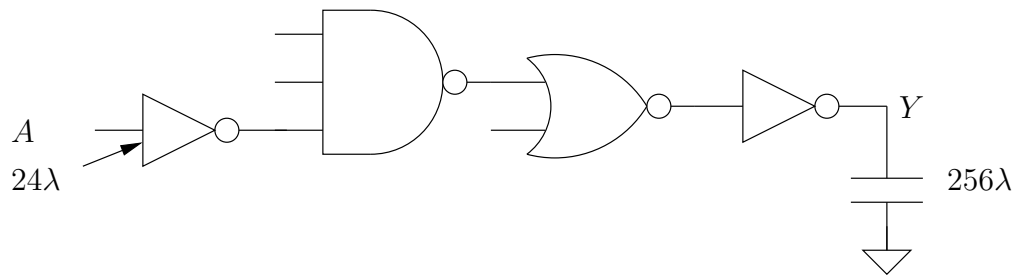
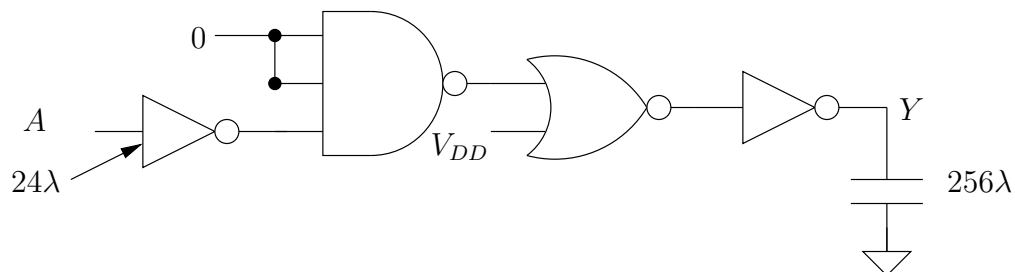

Figure 3: Question 19
Figure 4: Dynamic Power Configuration
- In the circuit shown below (Fig. 3) all gates are symmetric Static CMOS gates. If the input inverter can present a maximum of  $24\lambda$  width equivalent of capacitance and the load presents  $256\lambda$ , answer the following
- (d) The energy of a unit inverter ( $W_p/W_n = 8\lambda/4\lambda$ ) was characterized at  $V_{DD} = 1V$  and was found to be  $2fJ$  for a single charge-discharge cycle with no load capacitance. Calculate the dynamic power of the circuit in Fig 3 when connected in a configuration shown in Fig 4. You may assume a clock of frequency  $f = 1MHz$  with 70% duty cycle is connected to the input A and  $V_{DD} = 1.5V$